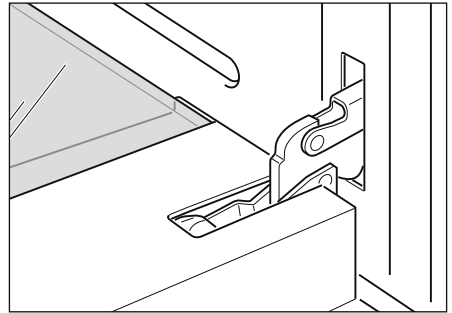

Fig. 35a
- Fully open the oven door (Fig. 35a).
- 1 Make sure the door is locked open (see Figs 35a - 35c).